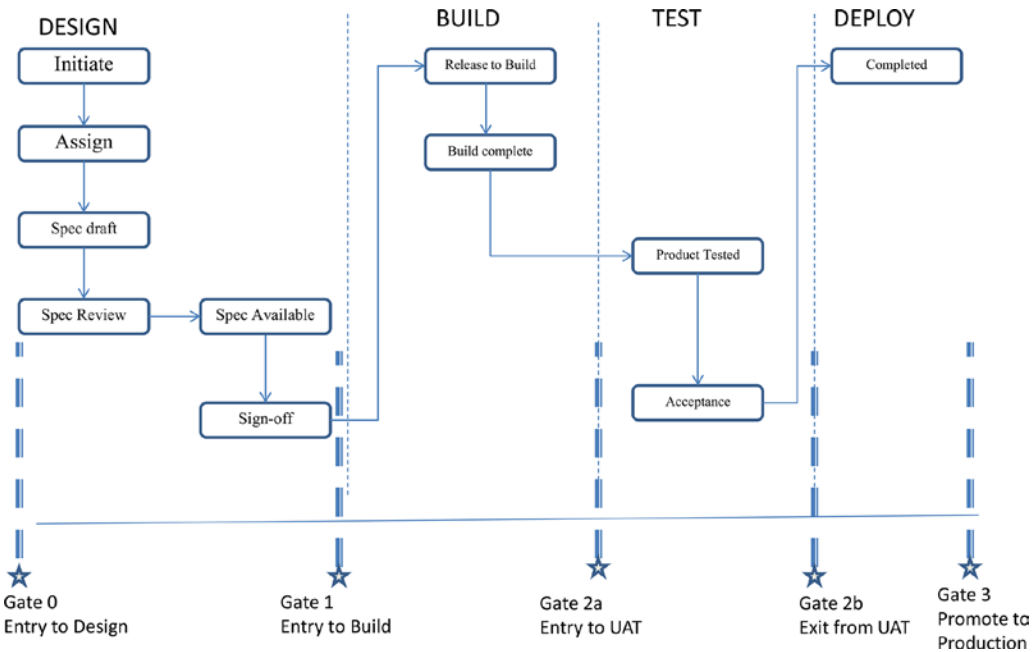

Figure 8-7. Release management process step-by-step
In this worksheet, you can see who created the release RFC and to which group the RFC is currently assigned. Each project RFC (logical unit of work) consists of one or more change elements (building blocks) that are recorded in SharePoint, as well as the status of each change element (CE). At each gate, the CEs of each project are reviewed, and must be the correct status to pass the gate (for example, 60-Acceptance Tested to pass Gate 2B). Figure 8-7 illustrates the release management process step-by-step, with gate reviews conducted by the respective release manager.